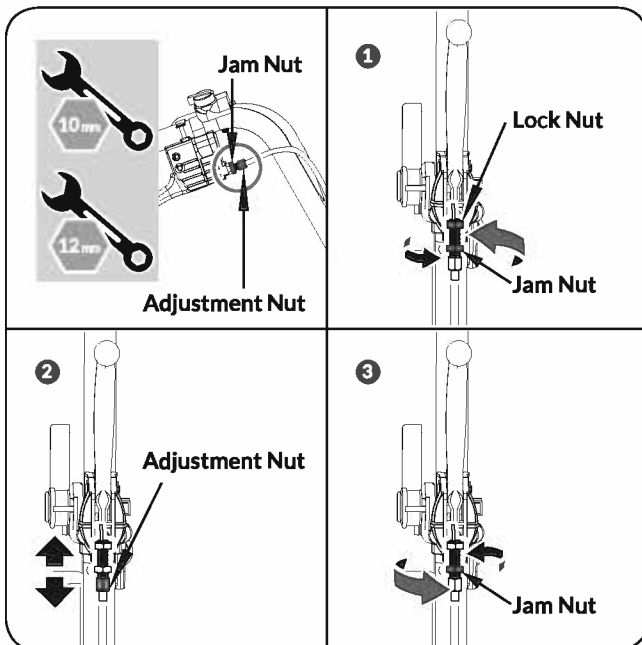

**Figure 6a**
1. Loosen the jam nut by turning it counter clockwise with 10mm wrench. (see **Figure 6a, Illustration 1**)
2. Tighten or loosen the cable by turning the cable adjustment nut clockwise or counter clockwise with 10mm wrench until you have reached your required tightness. (see **Figure 6a, Illustration 2**)
3. Once tightness is set, return the jam nut against the handle to hold the cable in place. (see **Figure 6a, Illustration 3**)